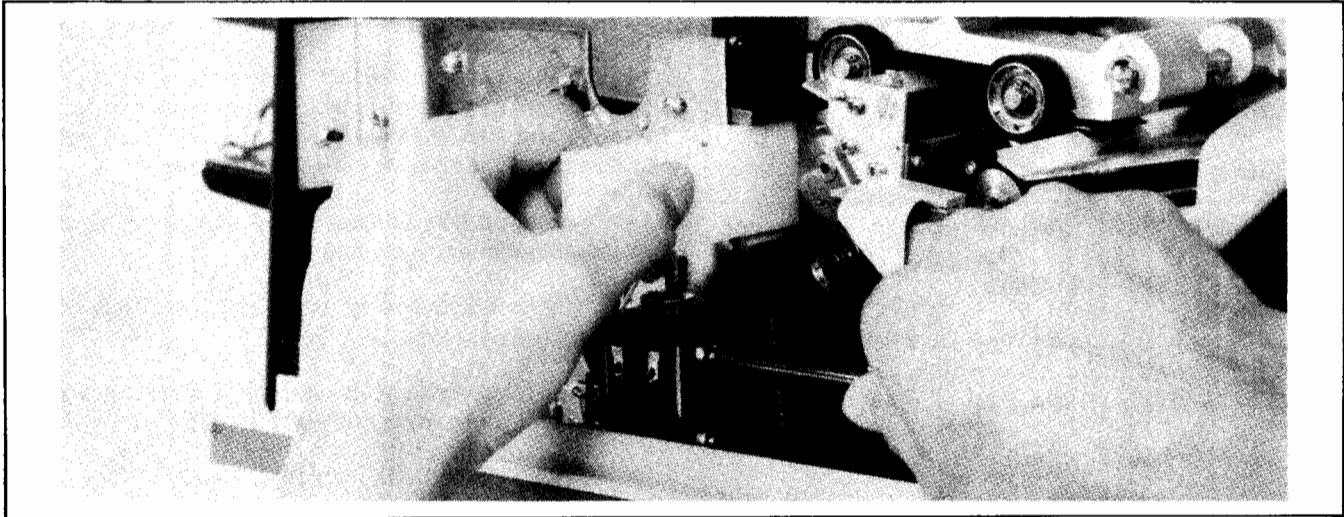

Figure 5-18. Card Deflector Solenoid Adjustment
a. Insert Hopper Adjustment Gauge (Part Number 07261-20005) between hopper and card deflector. See Figure 5-18.
b. Loosen screws (D) and slide solenoid up until compression spring is fully compressed.